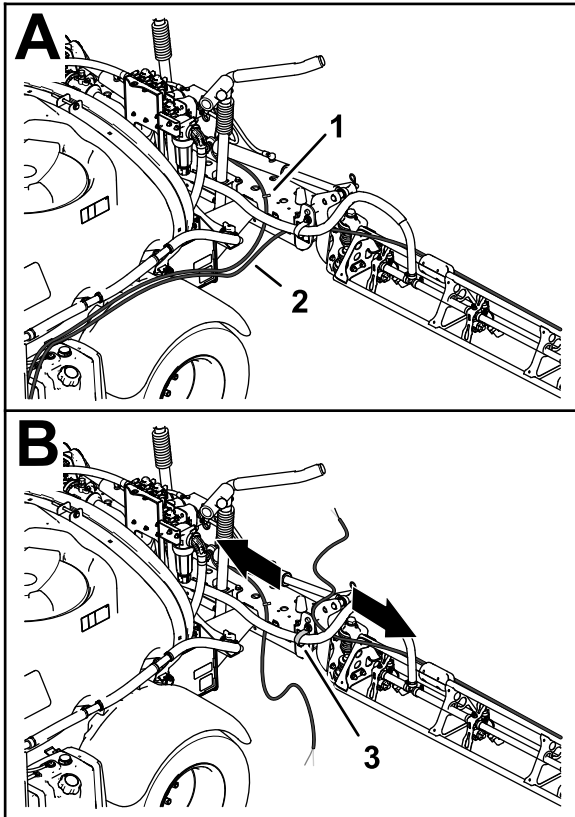

Figure 19
2. Move the tubes for the foam nozzles at the left- and right-spray section rearward and through the R-clamp near the pivot point for the spray section (Figure 19).